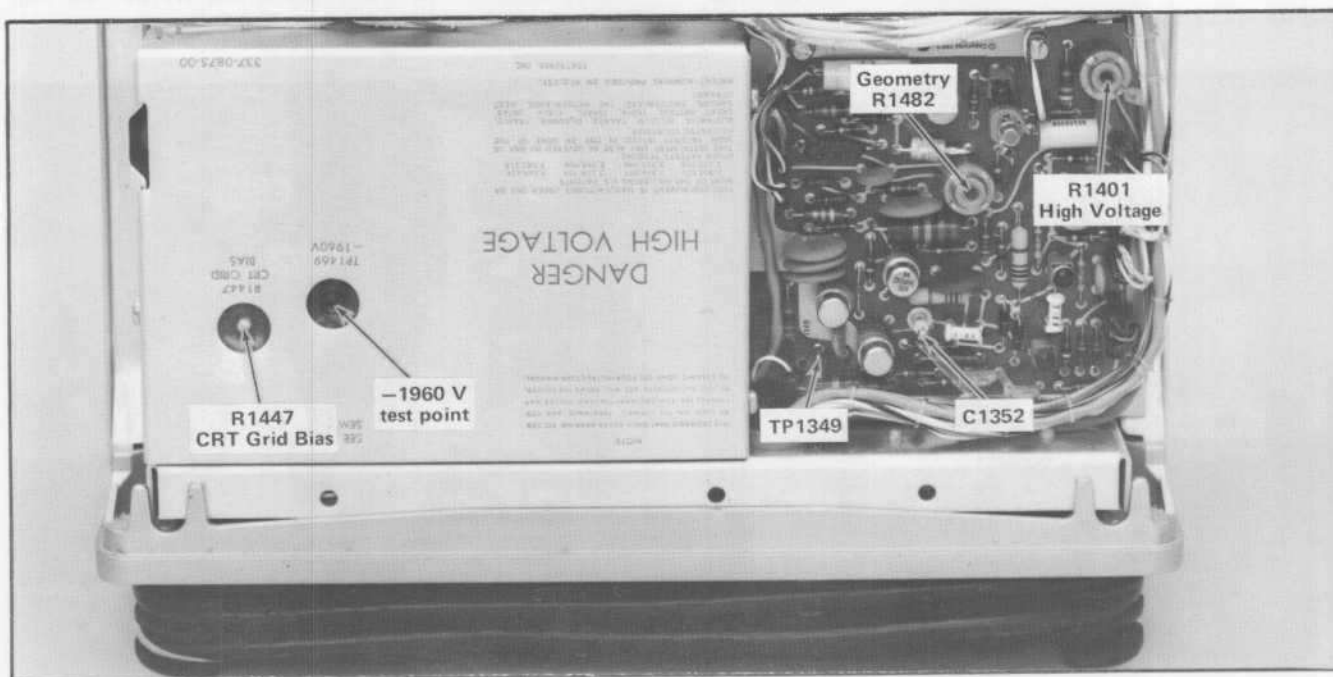

Fig. 5-5. Location of high-voltage and Z-AXIS adjustments and test-points.
a. Connect the precision DC voltmeter (use the precision 2 kV divider) between the -1960 V test point (see Fig. 5-5) and chassis ground.
c. ADJUST—High-Voltage adjustment R1401 (see Fig. 5-5) for a meter reading of -1960 volts (± 19.6 volts).
- Connect the precision DC voltmeter between TP1349 (Z Axis Amplifier board; see Fig. 5-5) and chassis ground.
- ADJUST—CRT Grid Bias adjustment, R1447 (see Fig. 5-5), so the spot on the CRT just disappears (it may be necessary to turn the horizontal POSITION control clockwise to bring the spot onto the viewing area).
c. ADJUST—Geometry adjustment, R1482 (see Fig. 5-5 for minimum bowing of the trace at the left and right edges of the graticule).
b. Connect the 10X probe tip to TP1349 (see Fig. 5-5).
f. ADJUST—C1352 (see Fig. 5-5) for optimum square corner on the unblanking gate.